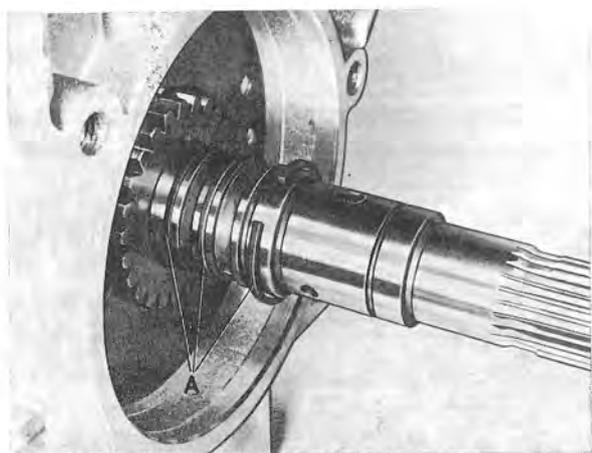

Fig. 4-97. Installing driven shaft oil rings
5. Fit the three oil sealing rings on the shaft, see Fig. 4-97. Exercise care when doing this as the oil sealing rings are very fragile. Stand the box on its front end and support under the shaft. Centre the oil rings. The pump body with driven gear is then fitted.